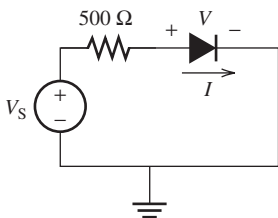

FIGURE P8.10 Circuit for Problem 8.10.
- 8.10 (B) For the circuit shown in Figure P8.10, find I and V when: